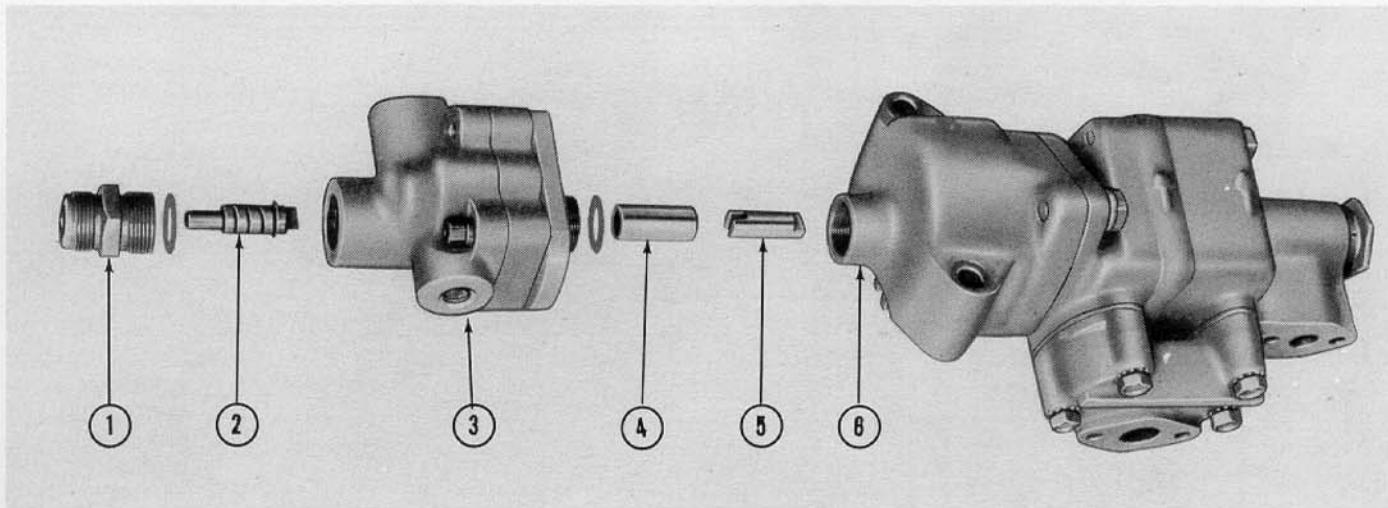

Figure 7
11. Disconnect the Proof Meter cable and drive assembly (2), Figure 7, from the tractor hydraulic pump assembly (6) and remove the pump from the tractor.
12. Insert the projected end of the pump drive connector (5), Figure 7, into the slotted bolt which holds the drive gear on the hydraulic pump (6). Position the sleeve (4), Figure 7, over the connector (5) for constant alignment.
13. Connect the pump (3), Figure 7, to the hydraulic pump (6), making sure that the pump drive connector is properly engaged. Turn the hydraulic pump drive gear while connecting the pumps to make sure that the Proof-Meter drive is turning. If so, the pump drives are properly engaged. Install the Proof-Meter drive shaft (2) and threaded collar (1), Figure 7, in the pump (3). The jam nut on the pump (3) and the collar (1), Figure 7, should be tightened securely at this time. The pumps must be in alignment as shown to facilitate mounting them on the tractor.